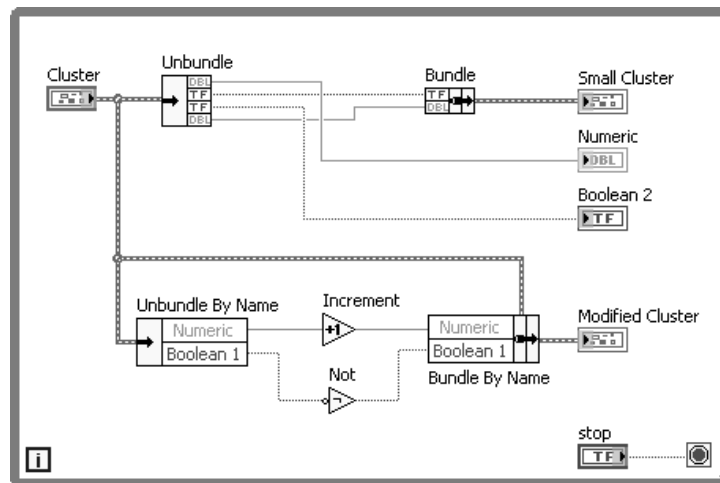

Figure 5-23. Cluster Experiment VI Block Diagram
In the following steps, build the block diagram shown in Figure 5-23.
- Wire the Bundle function as shown in Figure 5-23.
15. Complete the block diagram and wire the objects as shown in Figure 5-23.